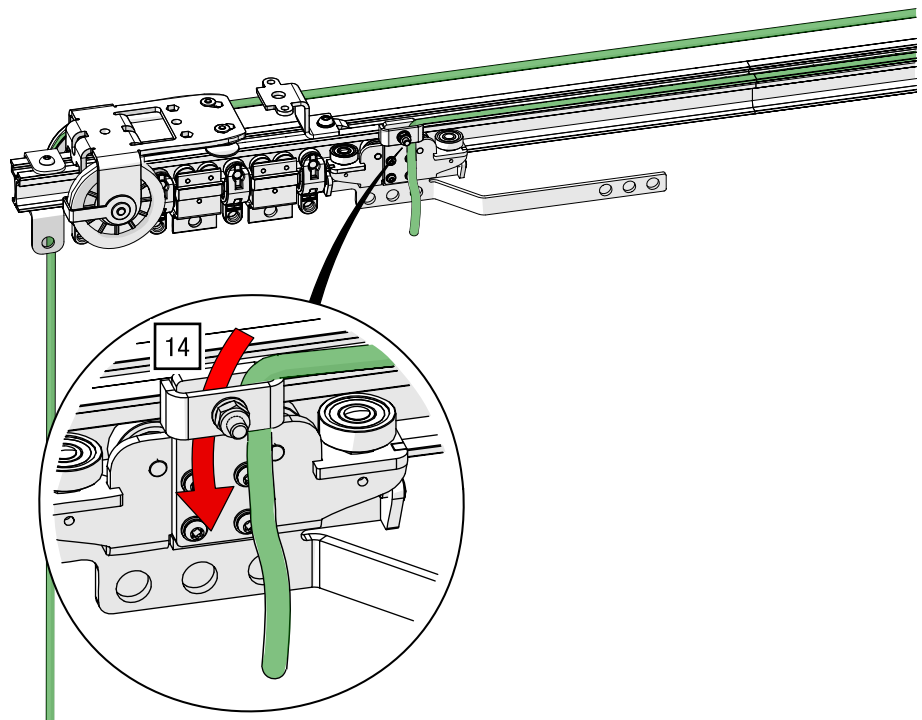

Fig. 82: Side cord operation – Guide the end of the cord through the return pulley into the master runner (view revolved)
14. Guide the end of the cord through the straight cord guide and into the cord clamp of the master runner on the side of the head pulley (see Fig. 82).